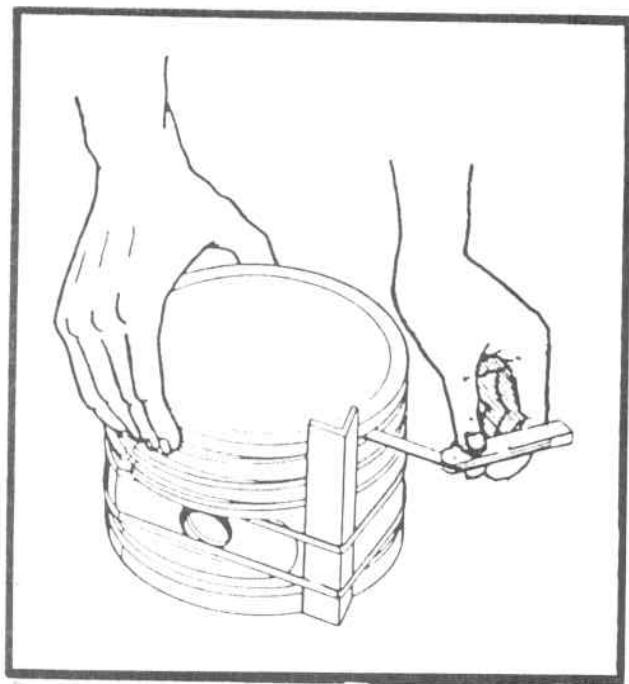

FIGURE 72-40-07A. INSPECTING RING SIDE CLEARANCE.
1. Hold a straight edge against the side of the piston ring grooves adjacent to the piston pin relief, as shown in Figure 72-40-07A.